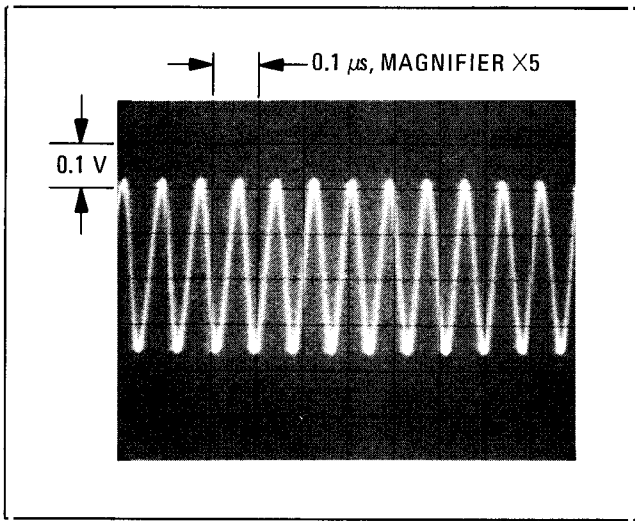

Figure 2. Oscilloscope Display of LF Loop VCO Output at TP4 (with ac coupling and internal triggering)
4. Check the waveforms for TP4, TP5 and J3-pin 2. Refer to Figures 2, 3 and 4. The frequency of the Signal Generator is 90 MHz and the VCO frequency is 60 MHz. Measurements are made using a 1:1 probe.